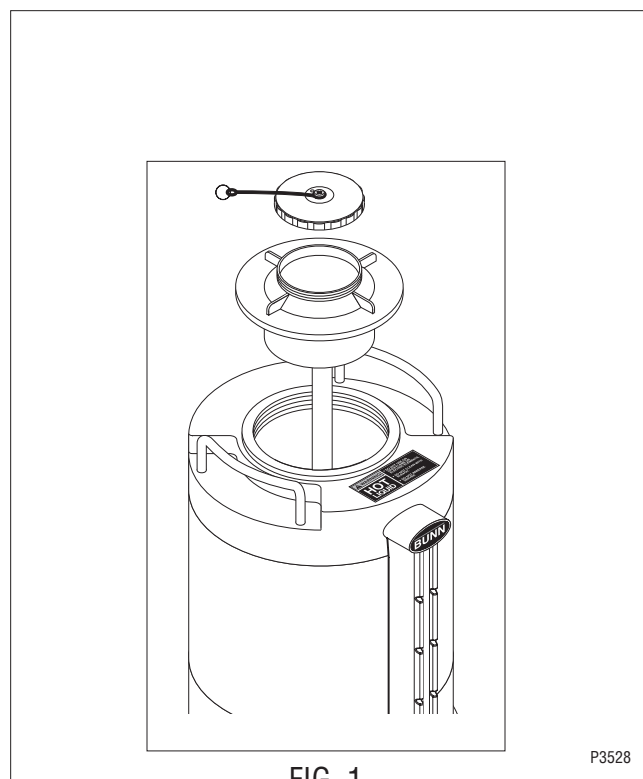

FIG. 1
1. Unscrew and remove the lid assembly from the TF server (FIG. 1).